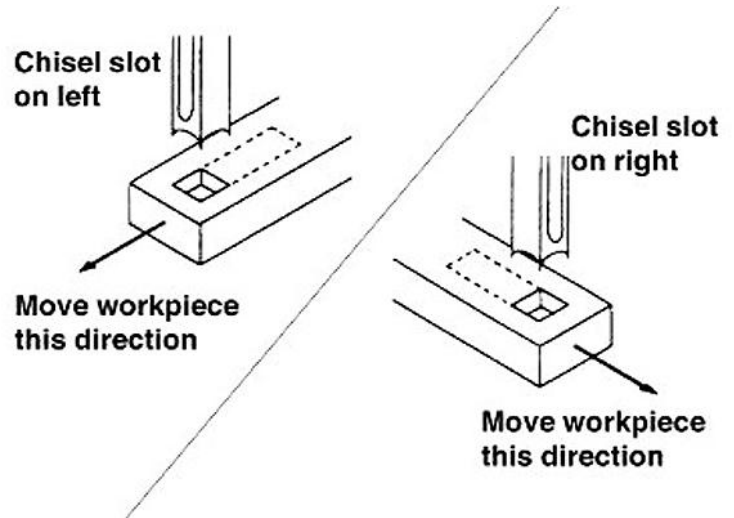

Fig 12
6. After the first cut, the workpiece is moved along with the right handwheel for each successive cut. The direction of movement must allow the chips to clear freely. Move the workpiece so that the slot in the chisel is releasing chips into the *already cut* part of the workpiece. See Figure 12.